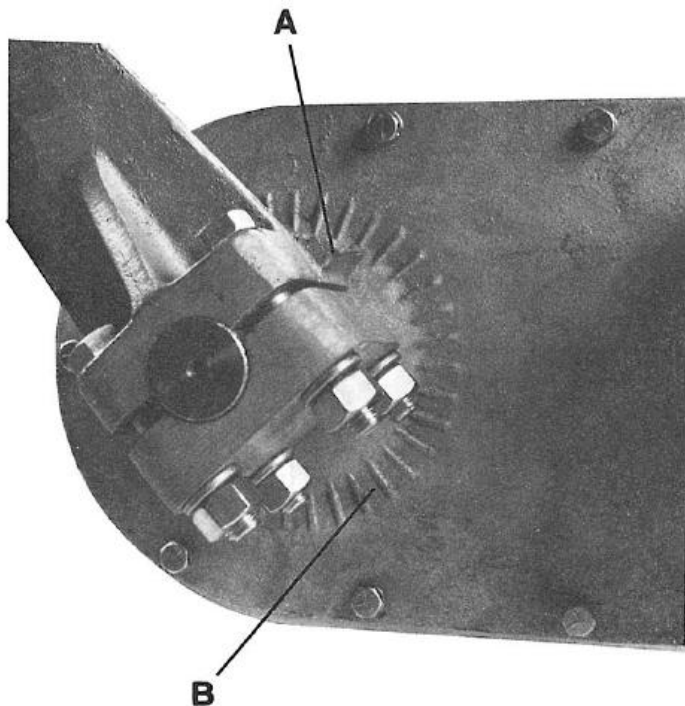

Fig. 7 Reset crank indicator and housing reference mark.
Slowly move the operating handle of the remote reset mechanism away from the handle stop, observing the position of the reset crank. As shown in fig. 7, and indicator (A) is provided on the reset crank and a reference mark (B) is provided on the housing of the actuating mechanism